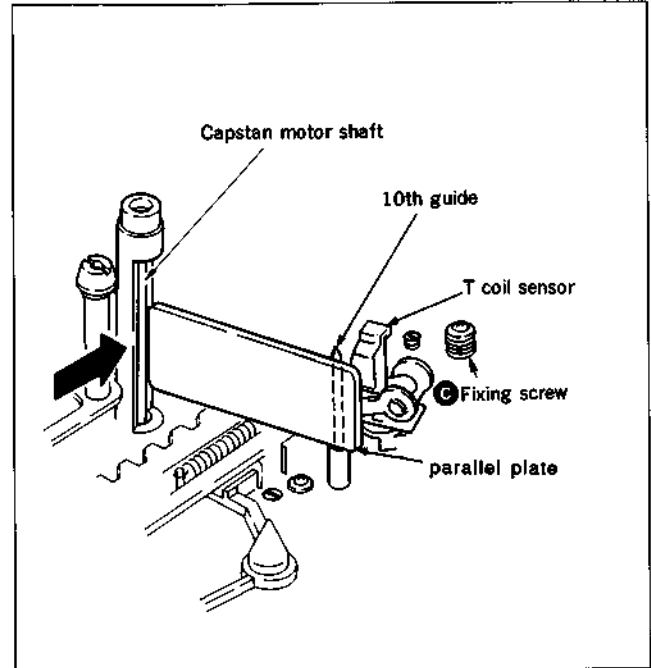

Fig. 7-20.
- 4) As shown in Fig. 7-20, put the parallel plate on the capstan motor shaft and on the 10th guide shaft perpendicularly.